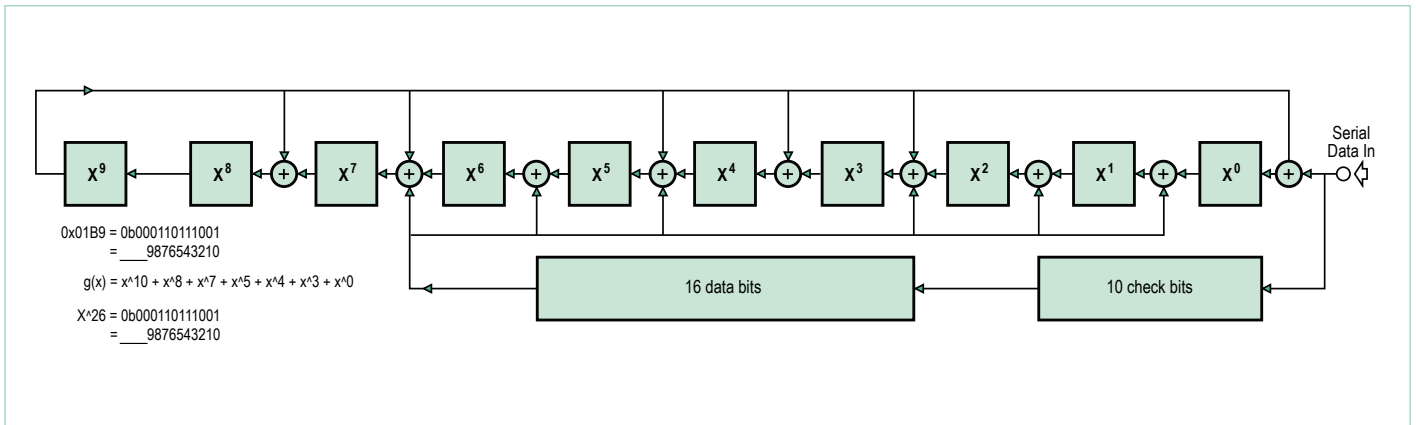

Figure 9. CRC2.
**Figure 9** shows schematically how the check bits are continuously calculated. The syndrome calculator can be looked on as a type of filtering. The feedback shift register is configured in the same way as the one used in the transmitter path. The continuous stream of bits are processed and as each bit emerges from the 10+16 bit shift register it is taken into account in the syndrome shift register. The software need only check if the syndrome shift register contains the value 198H which was the value added during encoding at the transmitter end. When this value is found the software responds with an 'OK'. A counter called 'localTime' is incremented from zero to 25. A value of zero indicates that a complete block together with the check bits have been processed.